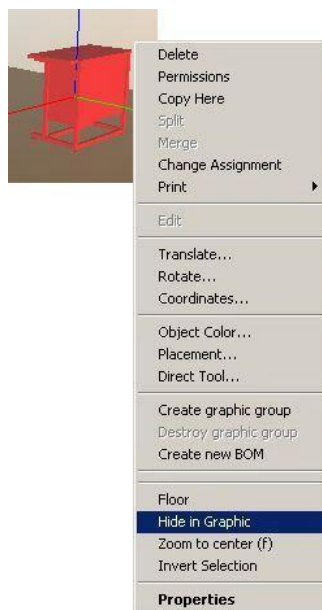

Figure 93: Hiding an Object in the Graphic
You can call the **Hide in graphic** function in the right mouse button **context menu** and in the **Graphic** menu. With this function, you can hide selected objects in the graphic. The context function is also available for bill of materials entries. *Please refer to the Figure 93.*
- 1) Click **Hide in graphic**. The selected object will be hidden in the graphic. *Please refer to the Figure 93.*